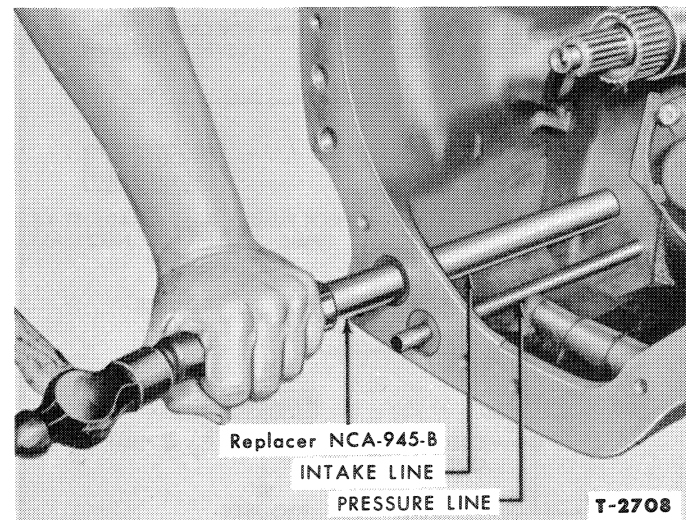

Figure 38—Installing Intake Tube
4. Use Replacer NCA-945-B and drive the intake tube out from the rear of the transmission. Use the same tool and install a new tube through the front of the transmission as shown in Figure 38.